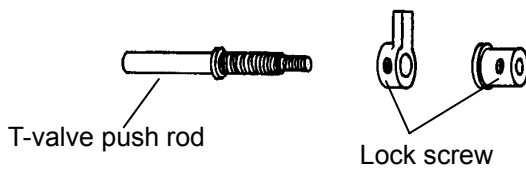

Figure 7-11
- Use the 1.5mm hexagonal wrench to loosen the lock screws of the Control Knob and the Control Nut and remove them from the T Valve Push Rod (Figure 7-11).